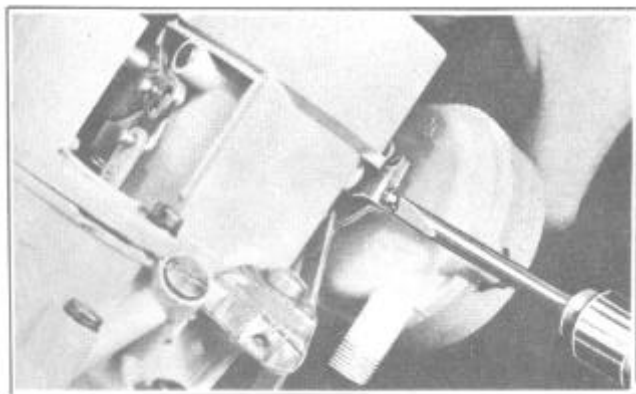

FIGURE 52
28. Hold choke valve wide open, then tighten choke lever screw as shown in Figure 52. Be sure that linkage does not bind in any position. Fast idle, unloader and lockout adjustments should be made as specified under "Carburetor Adjustments."